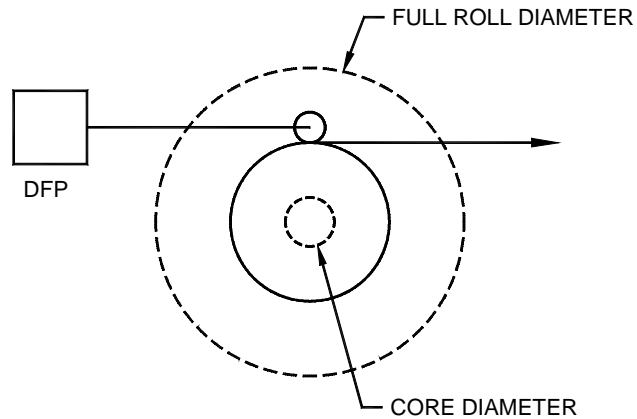

Figure 3
4.2 Sensor Setup (See Figure 3)